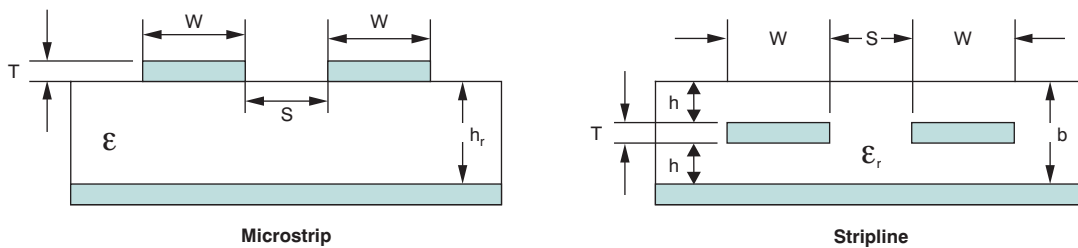

Figure 1. Physical Geometries of Differential Traces
- As shown in Figure 1, traces should be 100- Ω ($\pm 5\%$) differential impedance of differential microstrip or differential stripline.